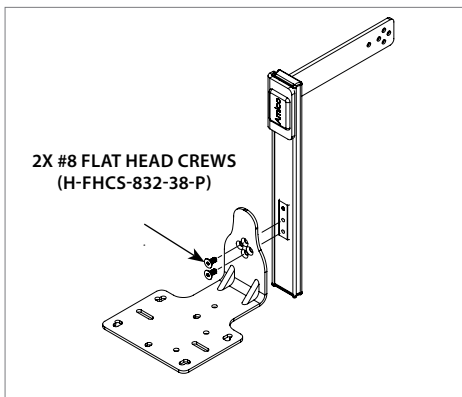
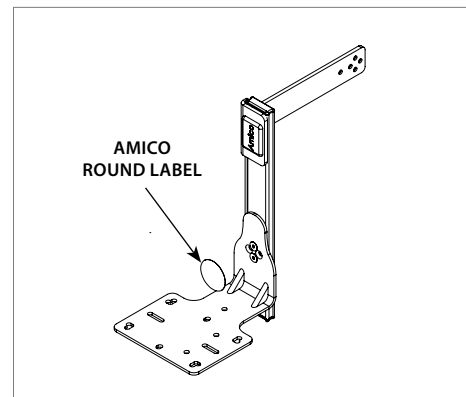

Figure 34
Figure 35
- Install the **BARCODE HOLDER MOUNTING PLATE** with 2x **#8 FLAT HEAD CREWS (H-FHCS-832-38-P)** from the **END CAP HARDWARE KIT (HMA-PR-ADJ-KIT)** by using a #3 Philip's Head screwdriver (**Figure 34**), then put the **AMICO ROUND LABEL** back (**Figure 35**).